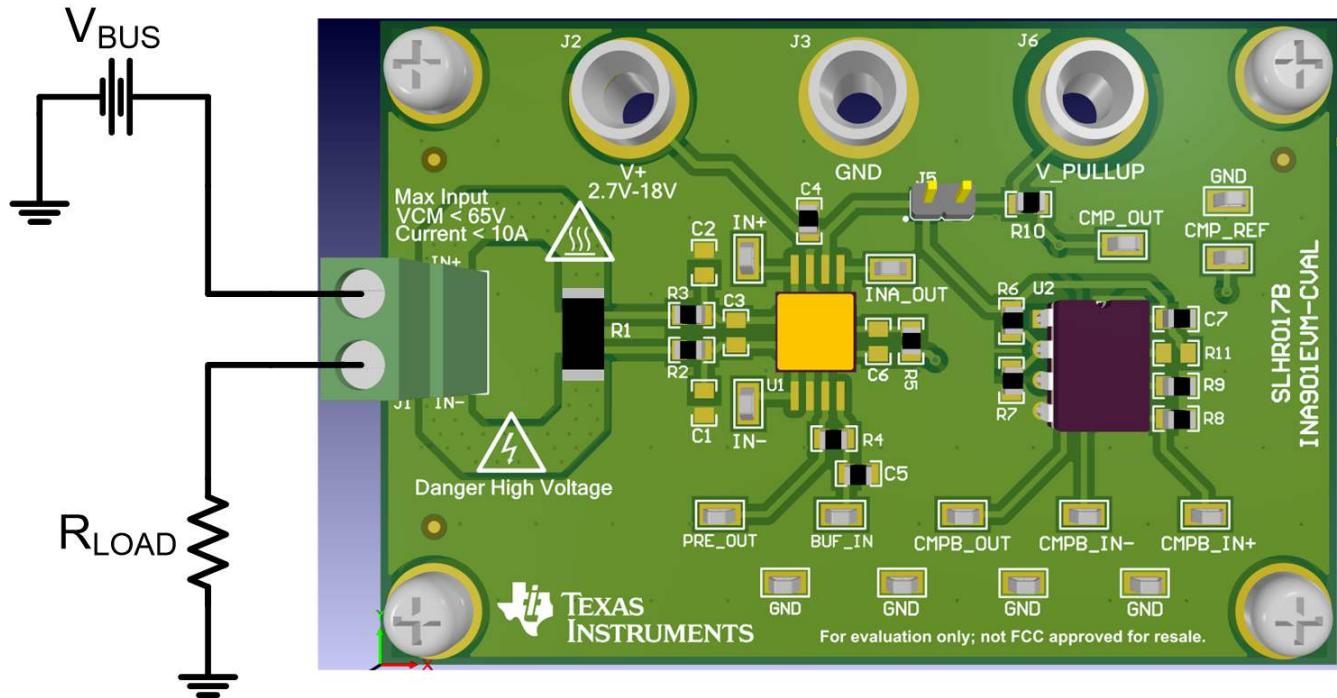

Figure 1. High-Side Setup Using Onboard Shunt Resistor
- Step 2. Connect the positive and negative terminals of J1 in series with the load and bus voltage sources while powered off. You will need to ensure proper logical order to test either the high-side, or low-side application. See TI Precision Labs - Current Sense Amplifiers: Design Considerations for additional information on proper application and orientation. Figure 1 shows the correct connections for a high-side application using this method.